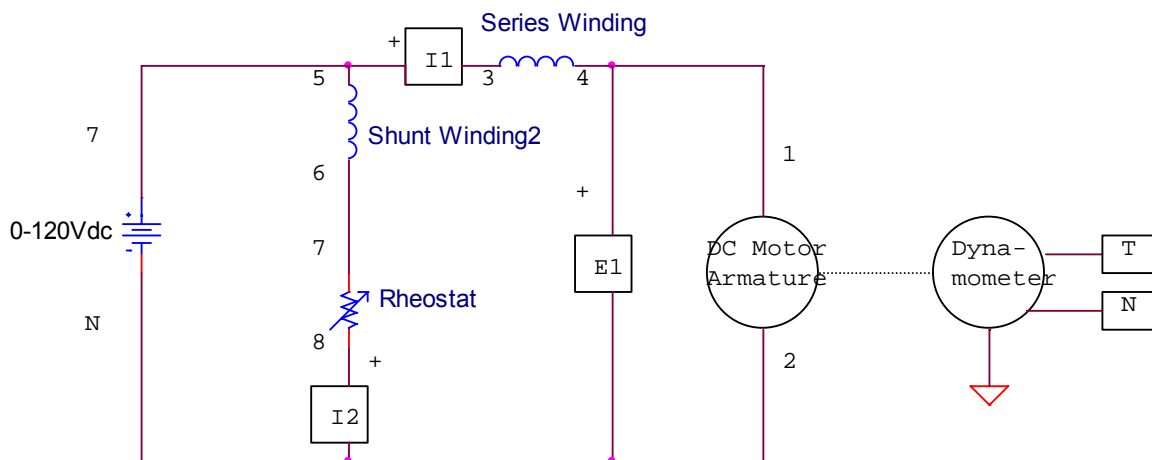

Figure 4: Compound connected DC Motor Circuit
38. Construct the compound connected DC Motor circuit of Figure 4.
41. Open the *Data Table Application* use it to record the armature voltage (E_1), armature current (I_1), speed (N), and output torque (T).
42. On the Dynamometer, set the DISPLAY switch to the TORQUE (T) position slowly turn the LOAD CONTROL knob clockwise to increase load torque from 0 – 2.0 Nm in increments of 0.1 Nm. For each torque setting, readjust the voltage control knob of the Power Supply to maintain the voltage (E_1). After the speed stabilizes, record the data in the data table.